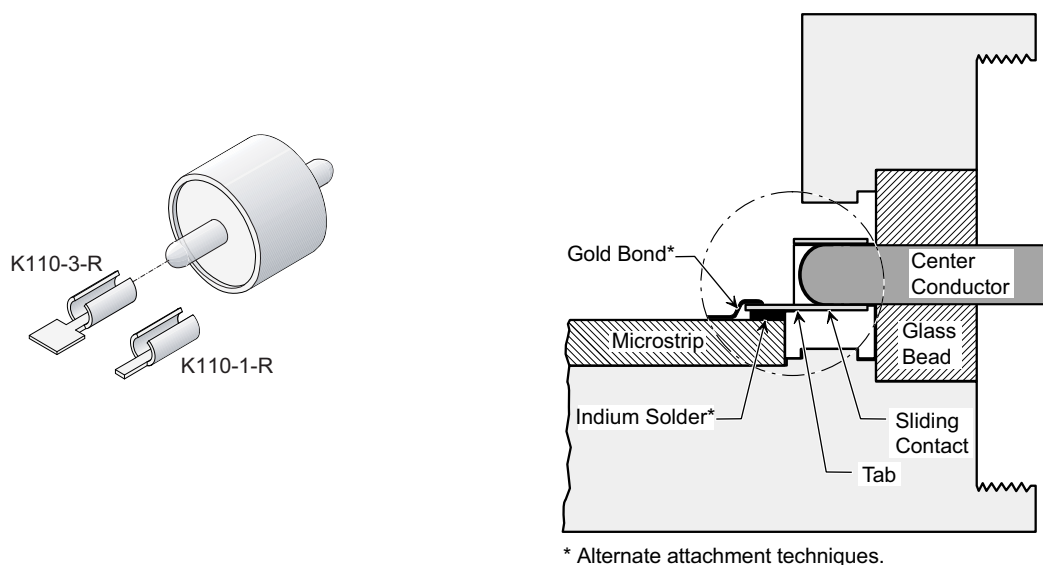

Figure 10-1. **K110-1-R or K110-3-R** Sliding Contact Assembly
The sliding contacts slip over the pin of the glass bead and mate with the microcircuit as shown in Figure 10-1 on page 10-2. The following is the recommended procedure for installing the sliding contacts and mating them with the microcircuit.
5. Position the sleeve as shown in **Figure 10-1**.